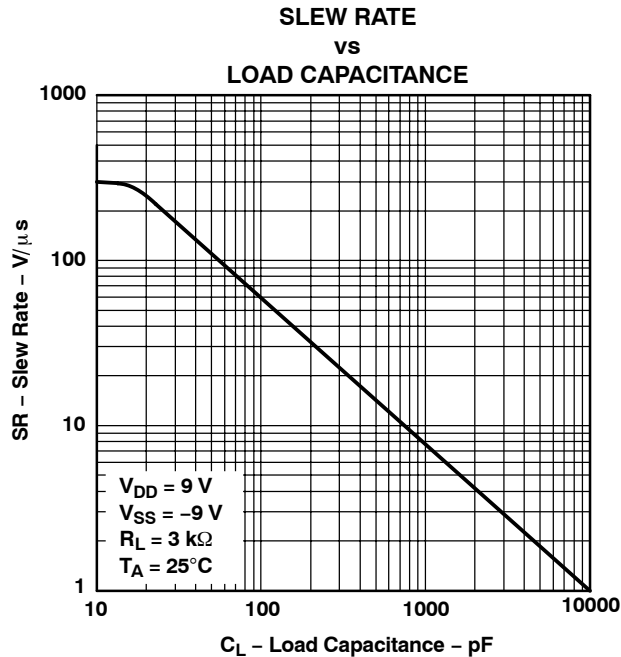

Figure 10.
- (1) See Figure 10 to select the correct values for the loading capacitors (C1, C2, and C3), which are required to meet the RS-232 maximum slew-rate requirement of $30 \text{ V}/\mu\text{s}$. The value of the loading capacitors required depends on the line length and desired slew rate, but typically is 330 pF .